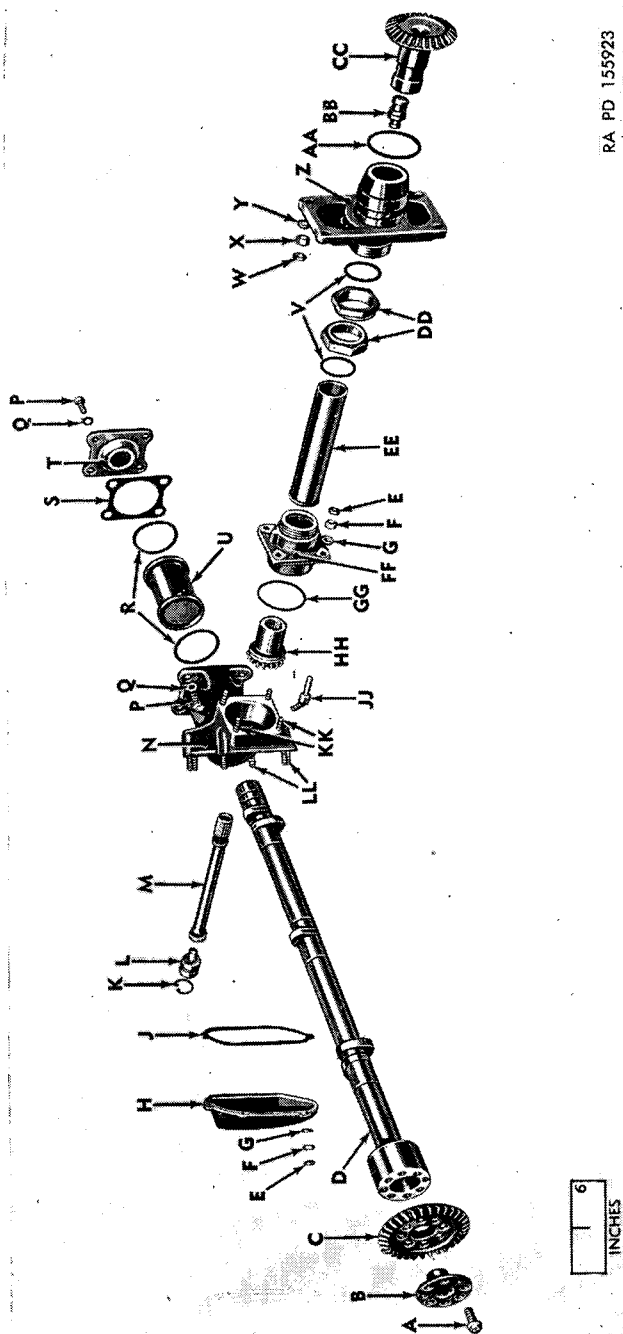

Figure 53. Camshaft and drive—left (2-4-6) side—exploded view.
b. Remove the inter-cylinder connectors (U, fig. 53) and (N, fig. 54) from the camshaft and discard the "O" ring gaskets. Loosen the drive shaft housing nuts (DD, fig. 53) and (WW, fig. 54) and remove the drive shaft housing (EE, fig. 53) and (VV, fig. 54). Discard the "O" ring gaskets (V, fig. 53) and (G, fig. 54).
c. Remove the jam nuts, plain nuts, and washers holding the drive shaft support (FF, fig. 53) and (UU, fig. 54) to the camshaft gear housing (N, fig. 53) and (P, fig. 54). Remove the support. Remove the camshaft drive bevel gear (HH, fig. 53) and (SS, fig. 54) and discard the "O" ring gaskets. Remove the camshaft assembly from the camshaft gear housing.
d. Place the camshaft assembly in a vise, using soft-jawed protectors. Remove the locking wire and bolts and lift off the accessory end oil-retaining cover (B, fig. 53) and (Y, fig. 54) and the camshaft bevel gear (C, fig. 53) and (X, fig. 54).
- (1) Inspect castings, studs, gears, splines, shaft, and oil passages (par. 57).
- (2) Check the camshafts by magnaflux. If this equipment is not available, examine them with a magnifying glass for cracks. Replace cracked shafts. Examine the camshaft lobes for scuffing and scoring. Light scuffing and scoring can be cleaned up with a hard oil stone and polished with crocus cloth. Clean raised metal from any small nicks and abrasions elsewhere on the shaft with a hard oil stone and crocus cloth. Check dimensions to the limits specified in repair and rebuild standards (pars. 149 and 150). Severely scuffed or scored shafts must be replaced.
- (3) Check outer and inner oil-transfer plugs (L and BB, fig. 53) and inner and outer oil-transfer plugs (B, and R, fig. 54). Adequate oil supply to camshafts and cylinder heads depends on the fit and condition of these plugs. See that oil passages are clean. Check the plugs to the limits specified in repair and rebuild standards (pars. 149 and 150).
b. Attach the camshaft bevel gear (C, fig. 53) and (X, fig. 54), and the accessory end oil-retaining cover (B, fig. 53) and (Y, fig. 54) to the camshaft with drilled-head bolts. Secure with locking wire. Refer to paragraph 109a for tachometer transmitter drive shaft (Z, fig. 54) installation.
c. Install a new "O" ring gasket on the camshaft gear housing (N, fig. 53) and (P, fig. 54). Slide the camshaft into the housing to seat camshaft journals in their bearings. Be careful not to